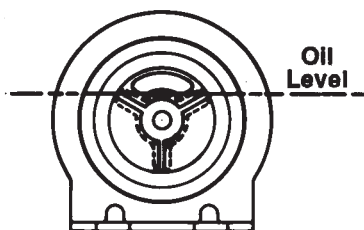
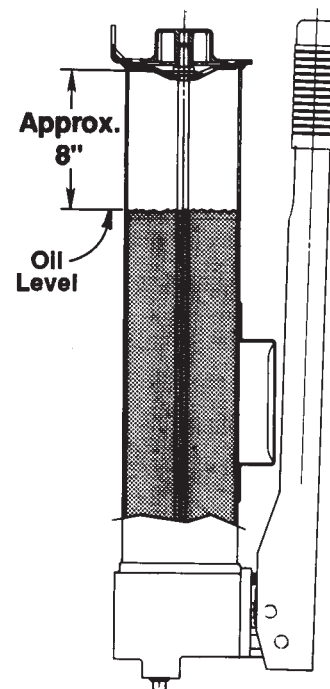

Figure 1
Figure 2
Check the oil level in the reservoir after every 10 hours of use. The oil level should come to the filler hole when the pump is resting on its base and the cylinders are retracted. Add oil if needed. See Figure 1. To help avoid excessive overfilling of the reservoir, the oil level should be approximately eight inches from the filler hole. See Figure 2.
The oil capacity of the reservoir is 153 cu. in., of which 137 cu. in. is useable. It is filled at the factory with a high-grade hydraulic oil to the level indicated in Figure 1. The reservoir is protected by a gasket in the filler cap, which will extrude and blow if more oil is contained in the system than the reservoir can handle. **IMPORTANT:** To prevent damage to the reservoir gasket, the cylinder(s) must be fully retracted before refilling the reservoir.
3. After adding oil, position the pump on its base (without the filler cap installed) and allow the excess oil to drain out. See Figure 1.